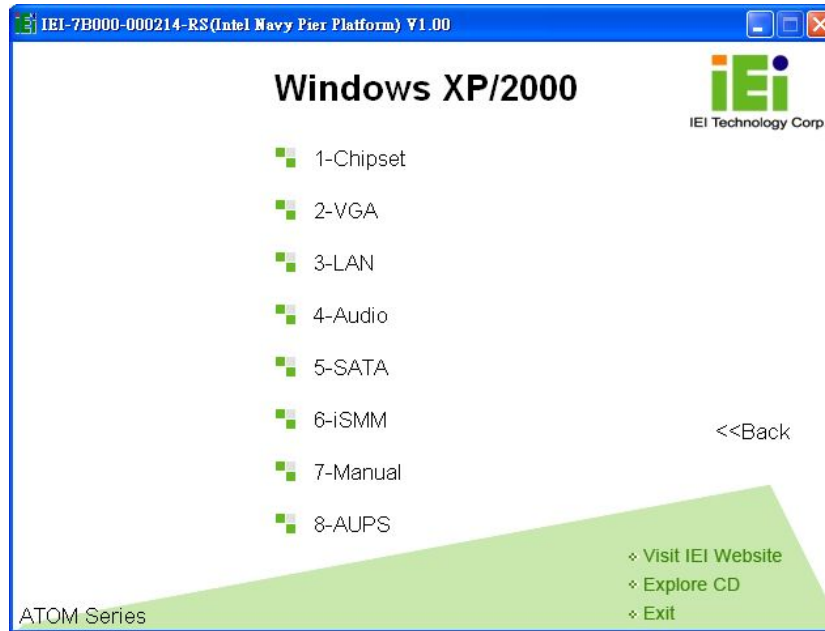

Figure 6-3: Drivers
Step 6: The list of drivers in **Figure 6-3** appears.
Step 1: Access the driver list shown in **Figure 6-3**. (See **Section 6.2**)
- Step 1:** Access the driver list shown in **Figure 6-3**. (See **Section 6.2**)